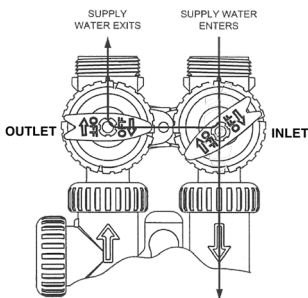

FIG. 4
- 4. Diagnostic Position**— The inlet handle arrow points toward the unit to allow water pressure to flow into the control valve. The outlet handle remains closed, pointed toward the center of the bypass. (See Fig. 4) This is helpful to have water run through the system without it affecting the rest of the building.
- **Rotate** the inlet side of the bypass to fully open position as shown in **Fig. 4** on page 4.